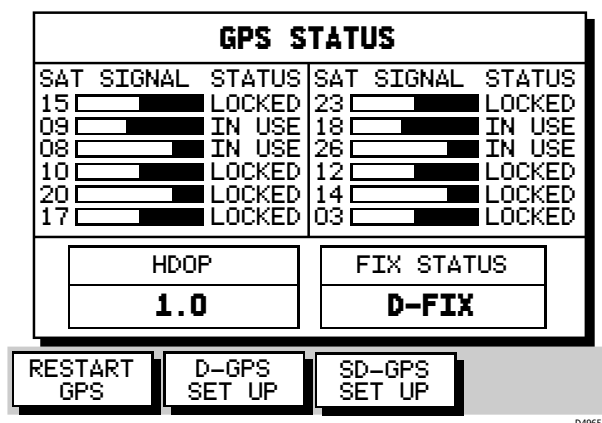

Figure 4-2: GPS Status Screen
1. Press the GPS SET UP soft key to display the GPS Status screen with associated soft keys as shown in *Figure 4-2*: